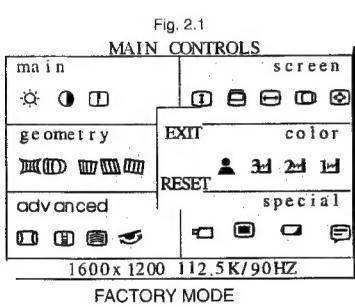
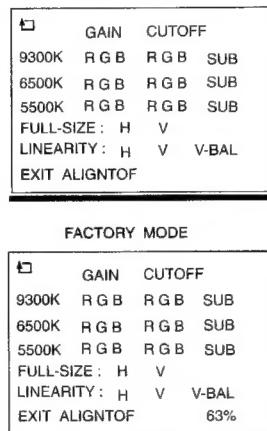

Fig. 2.2
Fig. 2.3
Step 1: To select the character "FACTORY MODE" as shown in Fig. 2.1, press "  " to access the OSD menu for R/G/B gain & cutoff as shown in Fig. 2.2.
Step 2: Use "  " to increase or decrease the value as shown in Fig. 2.3.
- : Select the character "FACTORY MODE" to access the R/G/B adjustment as shown in Fig. 2.2 and Fig. 2.3.
7.5 : Select the 6500K colour temperature as shown in Fig. 2.2.
7.6 : Select the 5500K colour temperature as shown in Fig. 2.2.